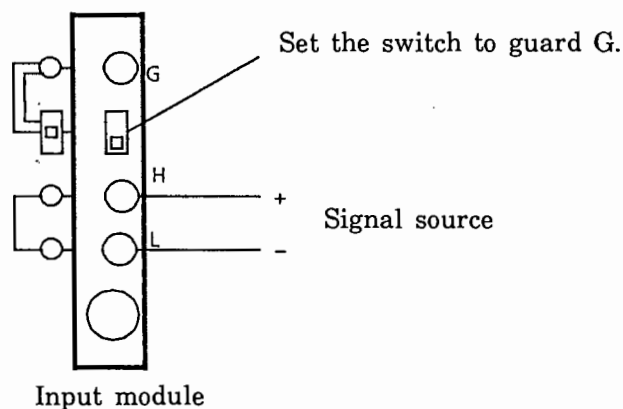

Figure 5.1
- (1) When the recorder is used in a laboratory or in a high-voltage range, connect an input line between terminals H and L with terminals L and G shorted (Fig. 5.1).